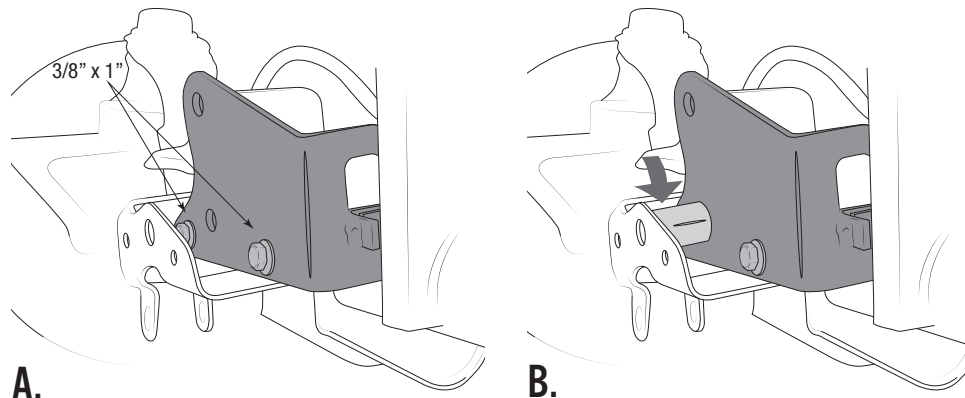

Figure 20
- A. Place bracket with “half moon” cutouts inside the original front track bar bracket and over the axle tube (Fig. 20-A). Insert two of the supplied $3/8" \times 1.0"$ L bolts and washers through the small holes in the bracket and the corresponding holes in the stock bracket, then add nuts and hand tighten.
- C. Insert the supplied spacer tube between stock track bar bracket and new bracket (Fig. 20-B), lining it up with the original track bar bolt hole. (This may require slight prying or tapping with a hammer.)